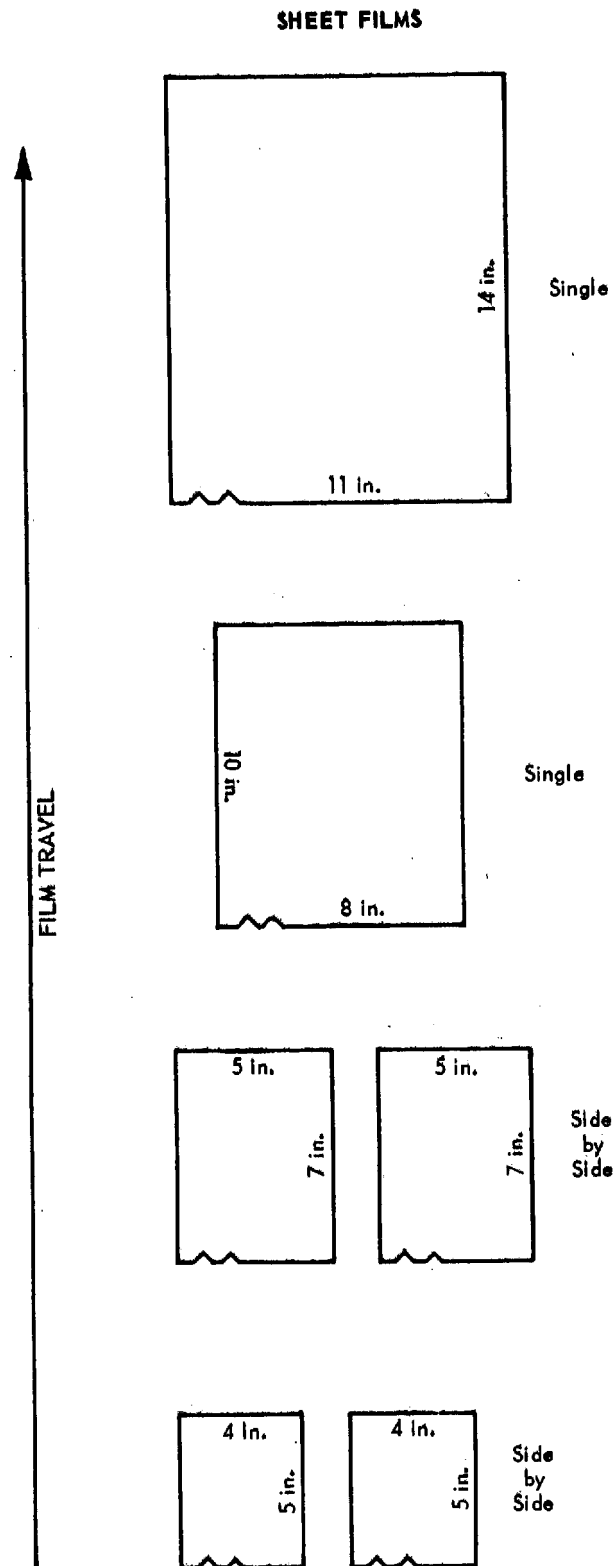

Figure 17. Proper Arrangement for Feeding Various Sizes of Film
- e. Figure 17 shows proper arrangement of various size films for feeding procedure. If possible, feed all narrower films side by side (do not overlap) to avoid over-replenishment of solutions.